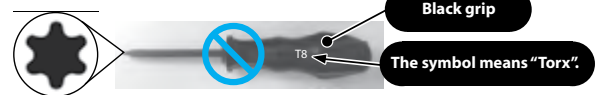

Fig. 2 "Torx" Wrench (Do NOT use it for MEW)
- Ref. to Fig. 2 for "Torx" Wrench. (Black grip)